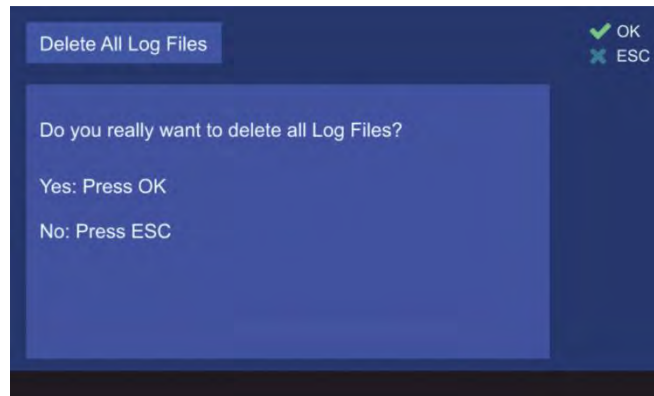

Figure 136. Confirming of deleting of all log files
- o Pressing the hotkey “Delete All” will open the prompt dialog for deleting of all log files (s. Figure 136). Pressing “OK” will delete all log files. Pressing “ESC” will close the dialog without deleting the log files.